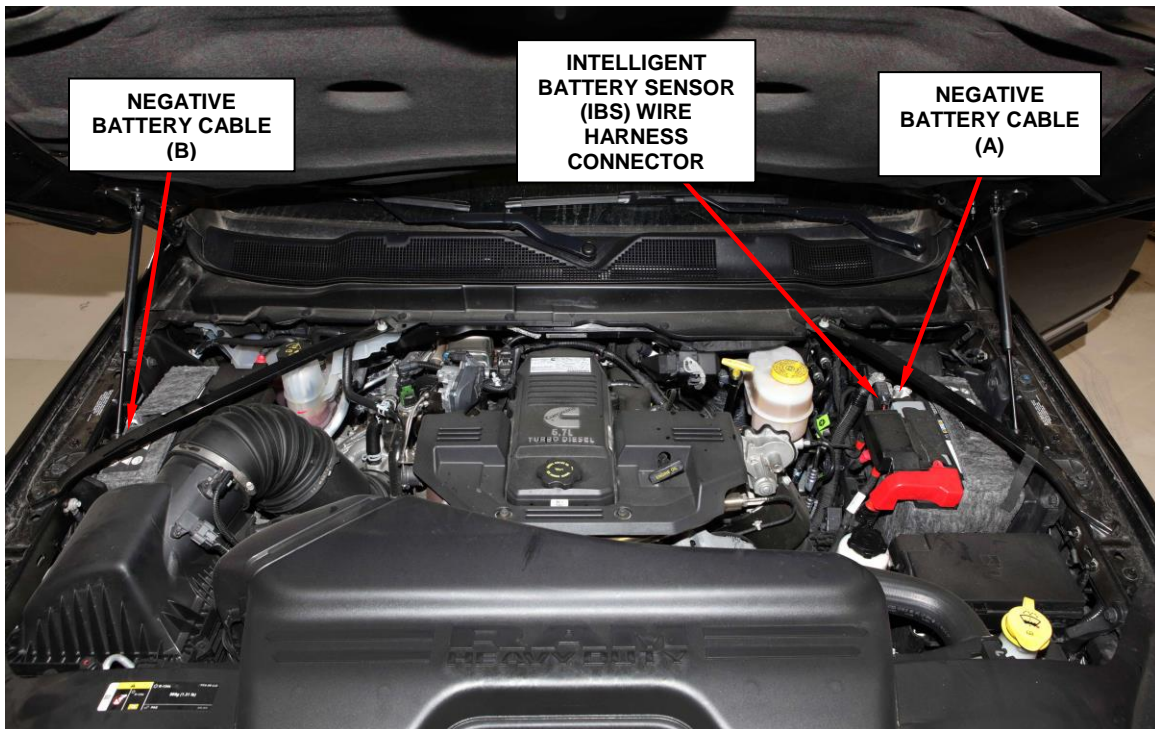

Figure 1 – Engine Compartment
1. Disconnect the Intelligent Battery Sensor (IBS) wire harness connector (Figure 1).
2. Loosen the ground terminal nut and remove the negative battery cables with IBS from the battery and isolate it (Figure 1).
17. Install the negative battery cables with IBS to the negative posts and tighten to 7N·m (62 In. lbs.) (Figure 1).
18. Connect the IBS wire harness connector (Figure 1).